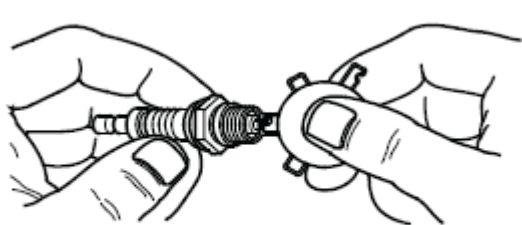

**Figure-15**
- \* Every 100 hours or every season, remove the starter guard and clean the area shown in **Figure-15**.